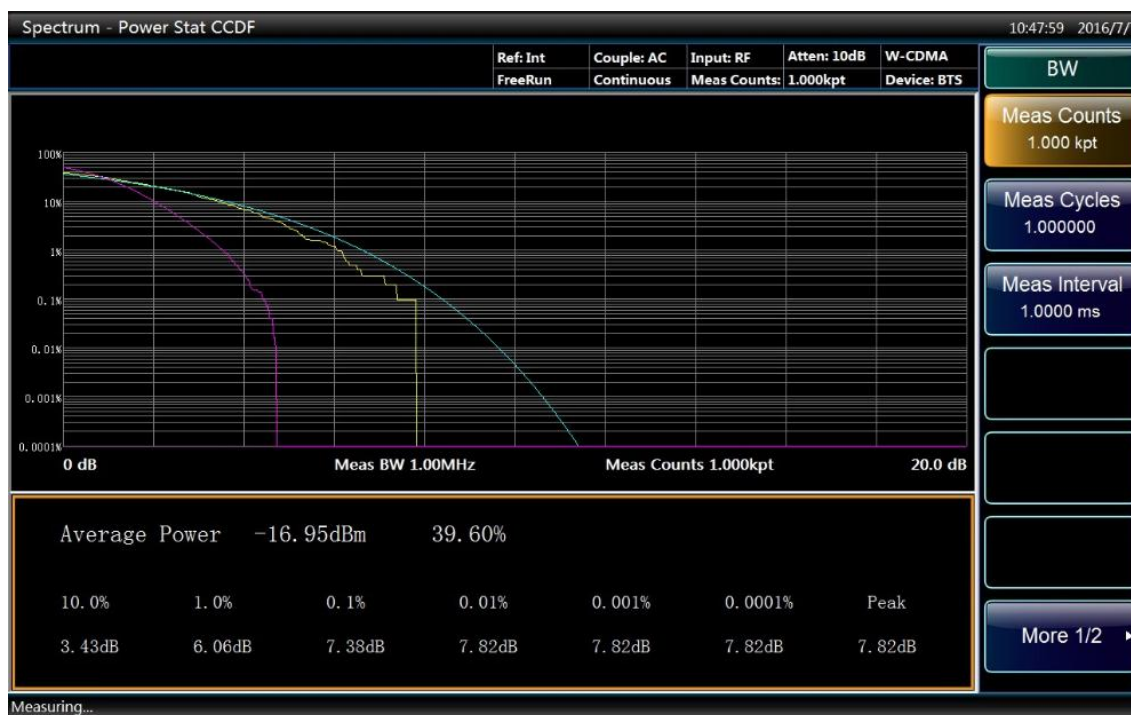

Fig. 4.72 Modify Measurement Points
- Press [Measurement Setting], [Measurement points]. Set accumulated points to 1 kpt, as shown in Fig. 4.72.